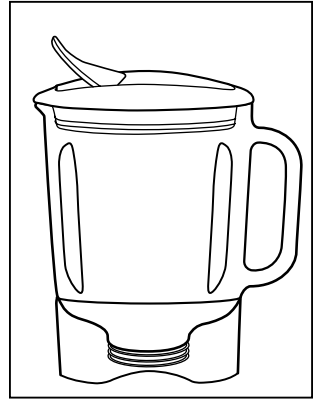

FIGURE 6
(!!) WARNING: When you work with HOT FOODS, flip the jar lid open to vent steam. Partially cover the opening keeping hands and other exposed skin away from the lid opening to prevent possible burns. (Figure 6)
(!!) WARNING: When you work with HOT LIQUIDS, flip the jar lid open and start at a low speed, and gradually increase to a faster speed. Do not add liquid over the 2 cup (.5L) level. Always keep hands and exposed skin away from steam. Start blending at lowest speed. (Figure 6)
- Do not remove the lid while in use. Flip the jar lid open to add smaller ingredients. (Figure 6)